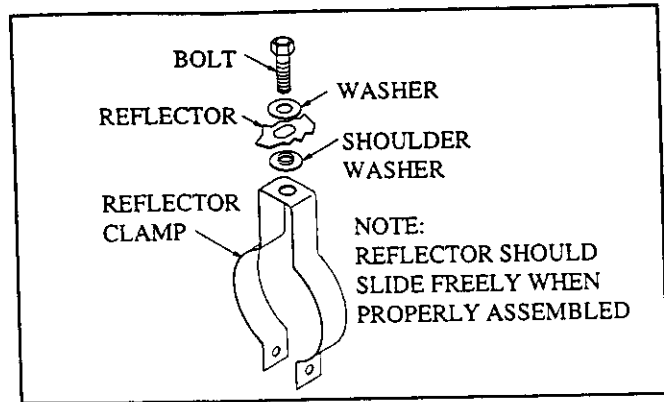
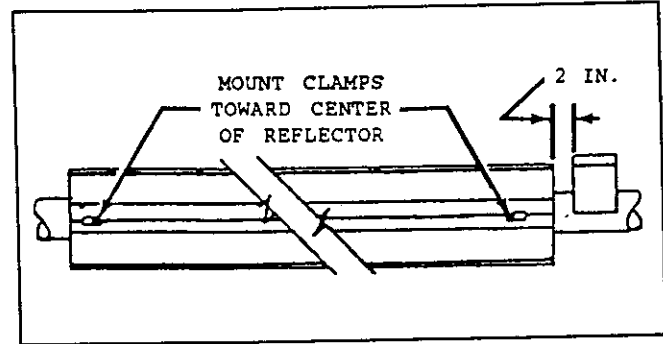

Figure 1-12
Figure 1-13
1. Attach bolt with washers and clamps to the reflector (see Figure 1-12), slide clamps in slot towards center of reflector (see Figure 1-13). This will allow radiant tube to expand at a rate greater than that of the reflector.
4. Install shorter reflector 2 in. away from radiant sensor box (see Figure 1-13) on DTH-2 models.